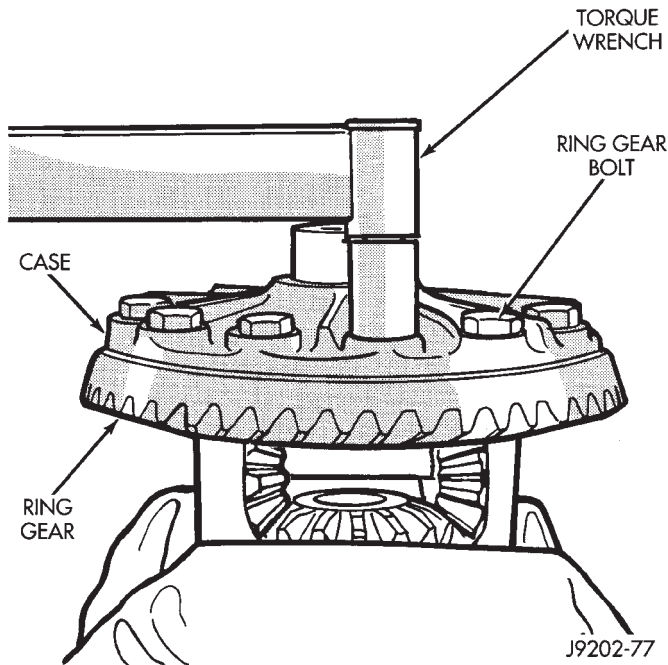

Fig. 38 Ring Gear Bolt Installation
(3) Invert the differential case and start two ring gear bolts. This will provide case-to-ring gear bolt hole alignment.
(4) Install new ring gear bolts and alternately tighten to 95–122 N·m (70–90 ft. lbs.) torque (Fig. 38).